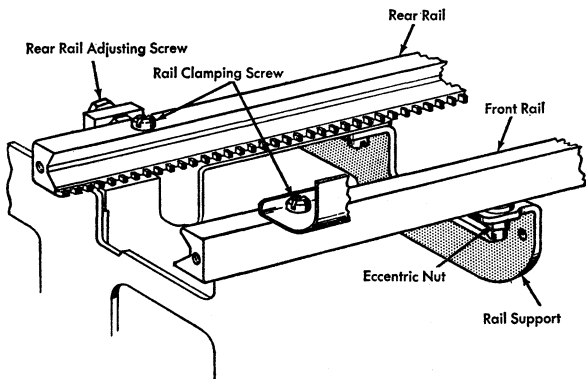

Figure 18. Rail Adjustments
2. **RAIL SUPPORT ECCENTRICS.** Adjust when the carriage is centered on the rails to just eliminate front to rear motion of the carriage (Figure 18).
3. **REAR RAIL ADJUSTING SCREWS.** Adjust these when the carriage is at each extreme margin to just eliminate any front-to-rear motion of the carriage. Then tighten the rear rail clamping screws (Figure 18).